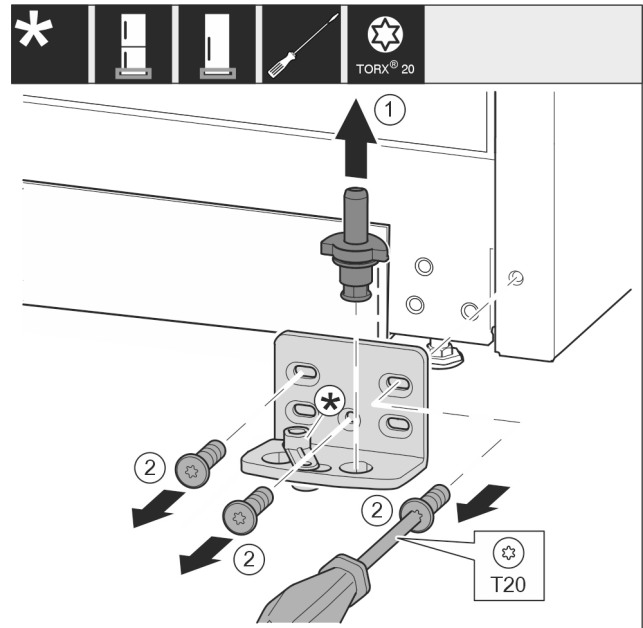

Fig. 16 *
- ▶ Pull the bearing bolt Fig. 16 (1) out upwards completely.*
- ▶ Use screwdriver to unscrew the screws Fig. 16 (2) and remove the swap bearing block.*